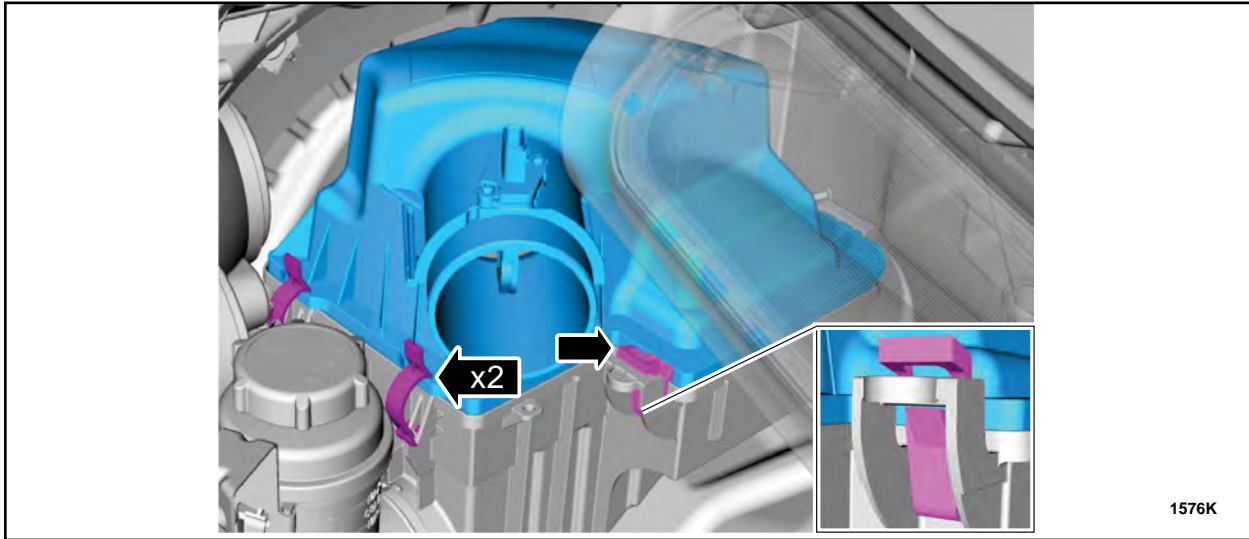

FIGURE 7
8. Unclip and remove the air filter cover. See Figure 7.
13. Install the air filter cover and fasten the clips. See Figure 7.